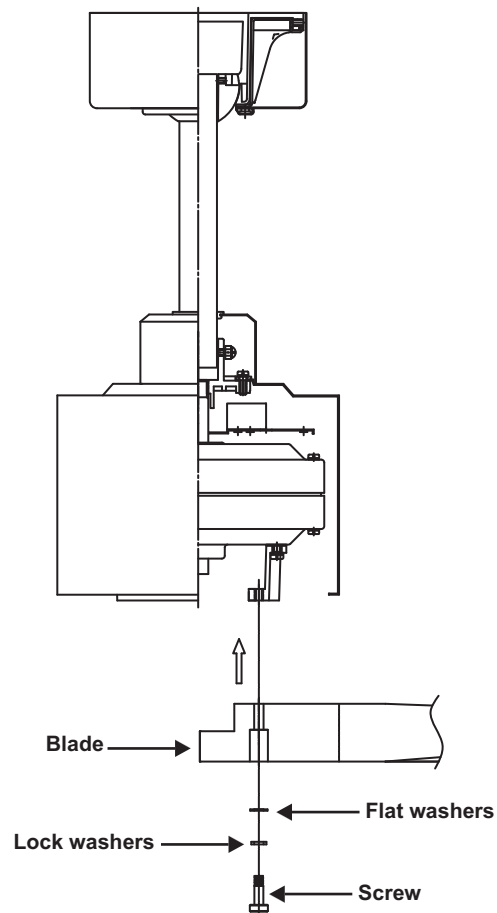

Figure 12
1. Fasten blade to motor using the flat washers, lock washers and screws supplied. (Fig. 12)
Install one 23A/12V battery (included). To prevent damage to transmitter, remove the battery if not used for long periods of time (Fig. 12 & 13)